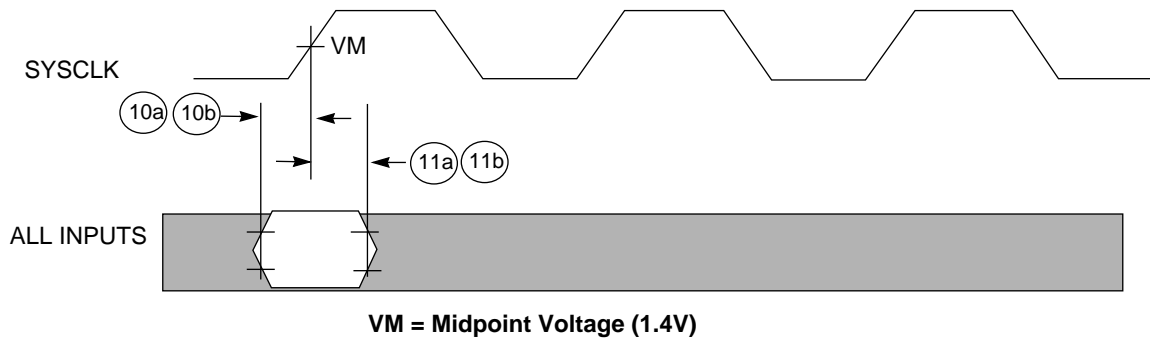
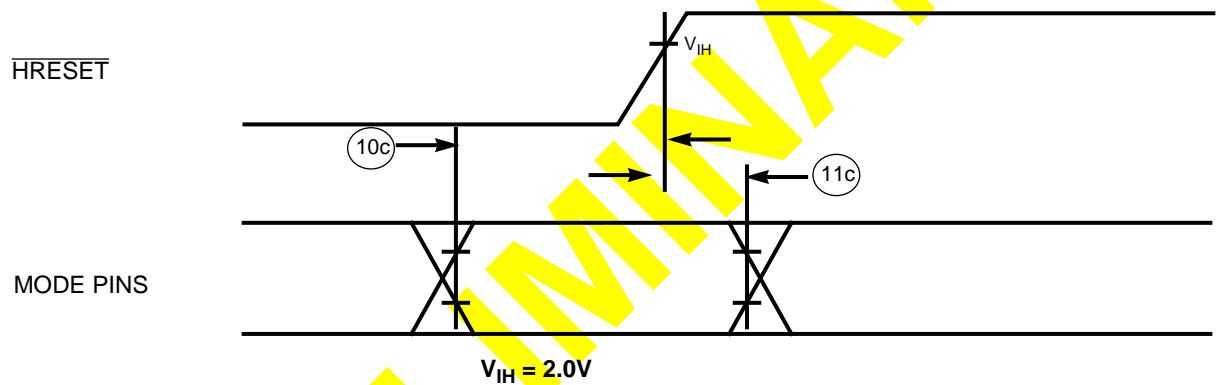

Figure 3. Input Timing Diagram
Figure 4. Mode Select Input Timing Diagram
Table 8 provides the 60X bus input AC timing specifications for the 750 as defined in Figure 3 and Figure 4. Input timing specifications for the L2 bus are provided in Section 1.4.2.5, “L2 Bus Input AC Specifications”.
- Input specifications are measured from the TTL level (0.8 to 2.0 V) of the signal in question to the 1.4V of the rising edge of the input SYSCLK. Input and output timings are measured at the pin (see Figure 3).
- The setup and hold time is with respect to the rising edge of $\overline{\text{HRESET}}$ (see Figure 4).
Figure 3 provides the input timing diagram for the 750.
Figure 4 provides the mode select input timing diagram for the 750.